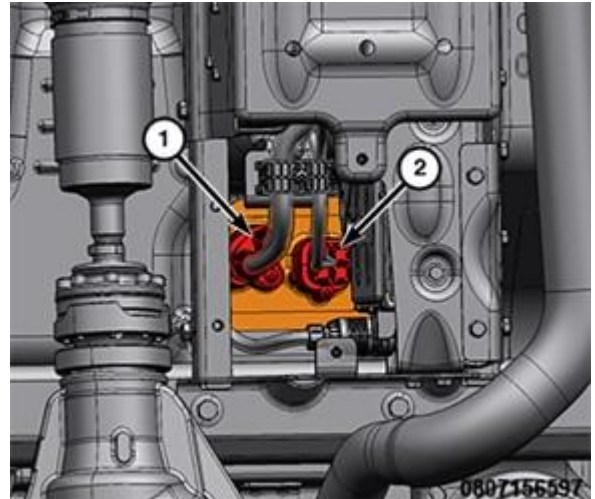

Figure 18 – HV Battery Wiring Connectors
33. Disconnect the HV wire harness connectors (1) and (2) from the HV battery (Figure 18).